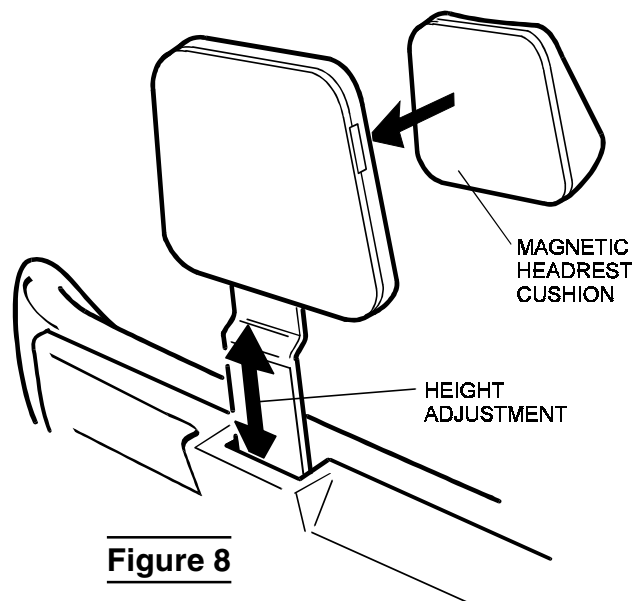

**Figure 8**
3. The headrest cushion is held to the headrest by a magnet and can be positioned as desired (See Figure 8).